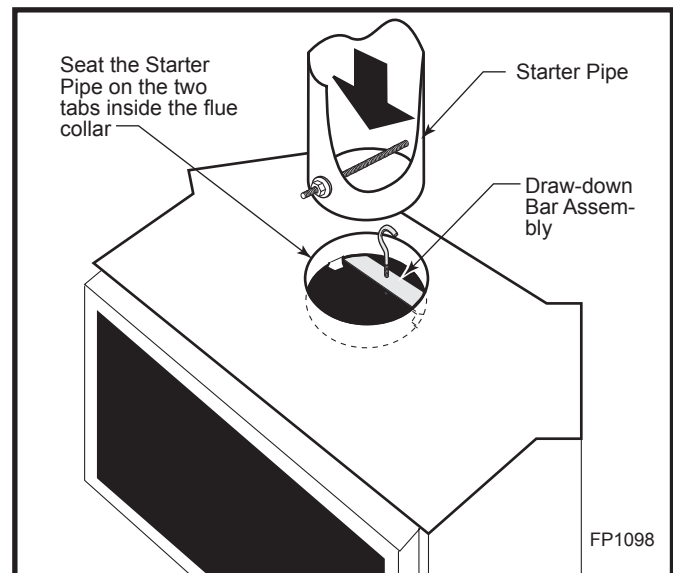

Fig. 7 Attach starter pipe to flue collar.
- Secure the starter pipe to the chimney connector. (Fig. 7)
- From inside the firebox, reach up through the flue collar and engage the hook over the threaded rod inside the starter pipe. Position the steel bar behind the two tabs within the flue collar and then turn the wing nut clockwise to draw the starter pipe down. (Fig. 7)